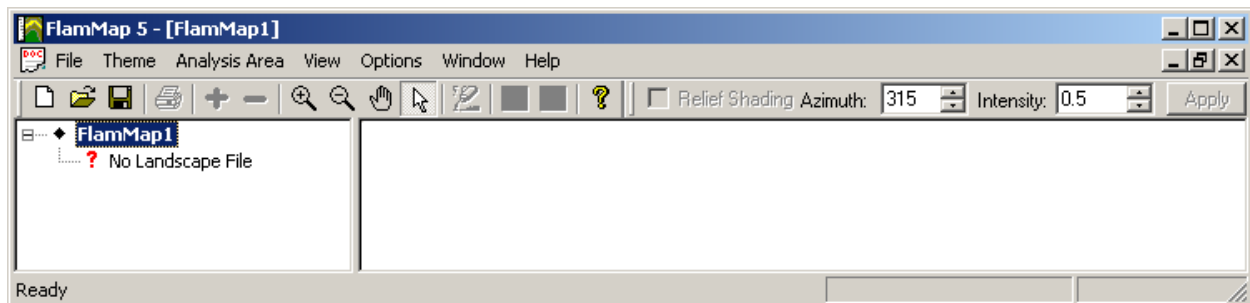

Figure 4-53—New FlamMap run window.
- 1) In FlamMap5, open a new run window (**FlamMap5 menu**→**File**→**New**, fig. 4-53).